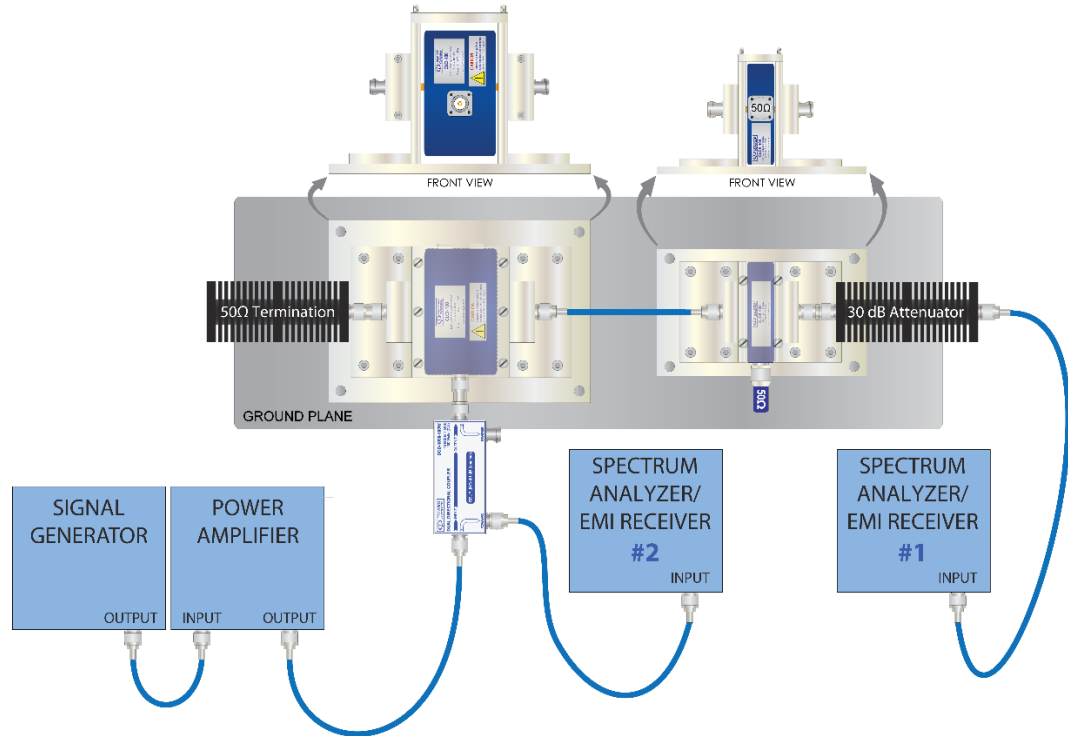

Figure 14 – Example Test Setup Diagram for Calibration of Test Levels
- 1) Set up the equipment as described in the applicable standard or approved test plan. An example setup diagram is given in Figure 14.